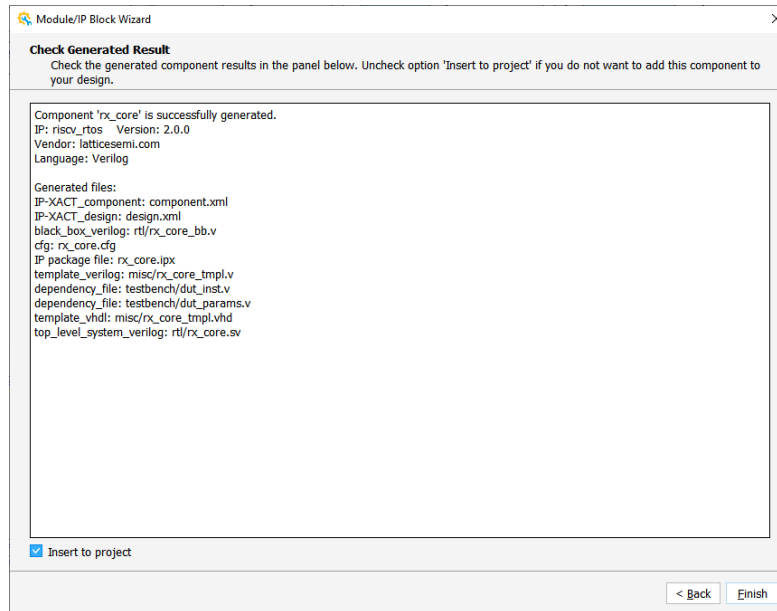

Figure 3.3. Verifying Results
- Verify the information, as shown in Figure 3.3. Click **Finish**.